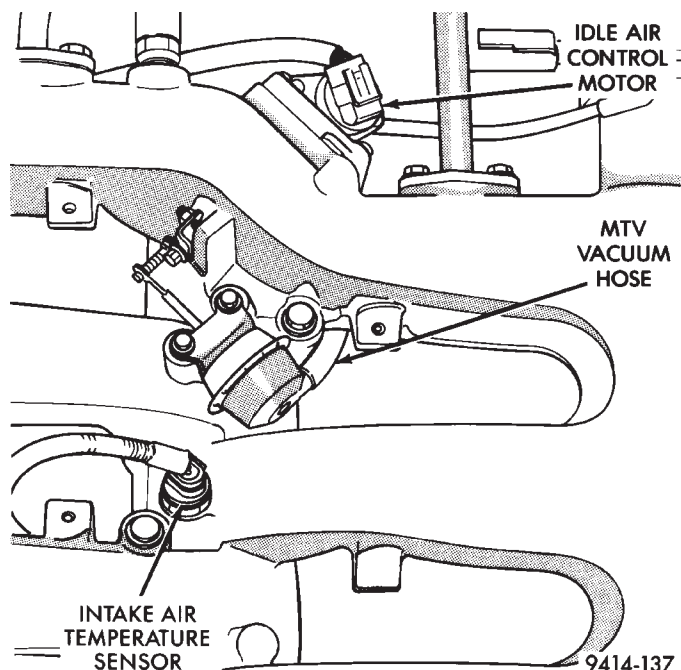

Fig. 28 Idle Air Control Motor
- (5) Disconnect electrical connectors from idle air control motor, and intake air temperature (Fig. 28).
- (6) Remove ground screw from intake manifold.
- (7) Disconnect vacuum hose from manifold tuning valve (Fig. 28).